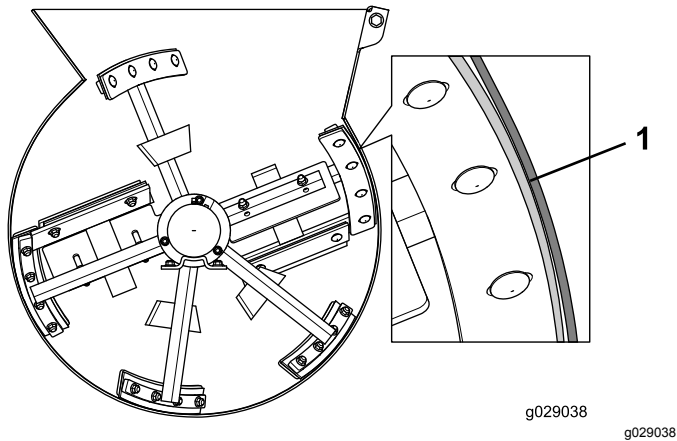

Figure 70
- Adjust the position of the wiper so that the wiper lightly contacts the drum across the length of the wiper (Figure 70).